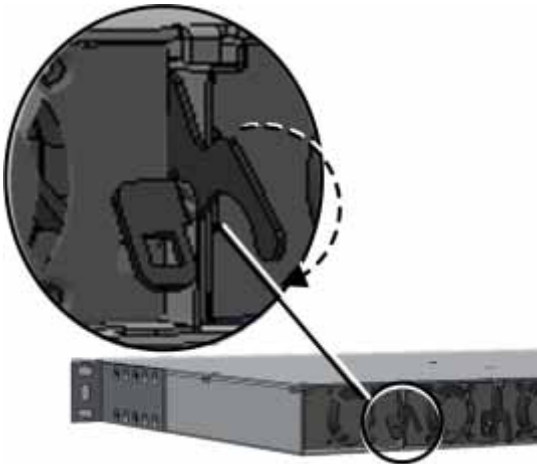

Figure 5-2. Securing PSM in Slot
3. Secure by pulling the lever downward until it "clicks" and the module is flush with chassis rear. See Figure 5-2